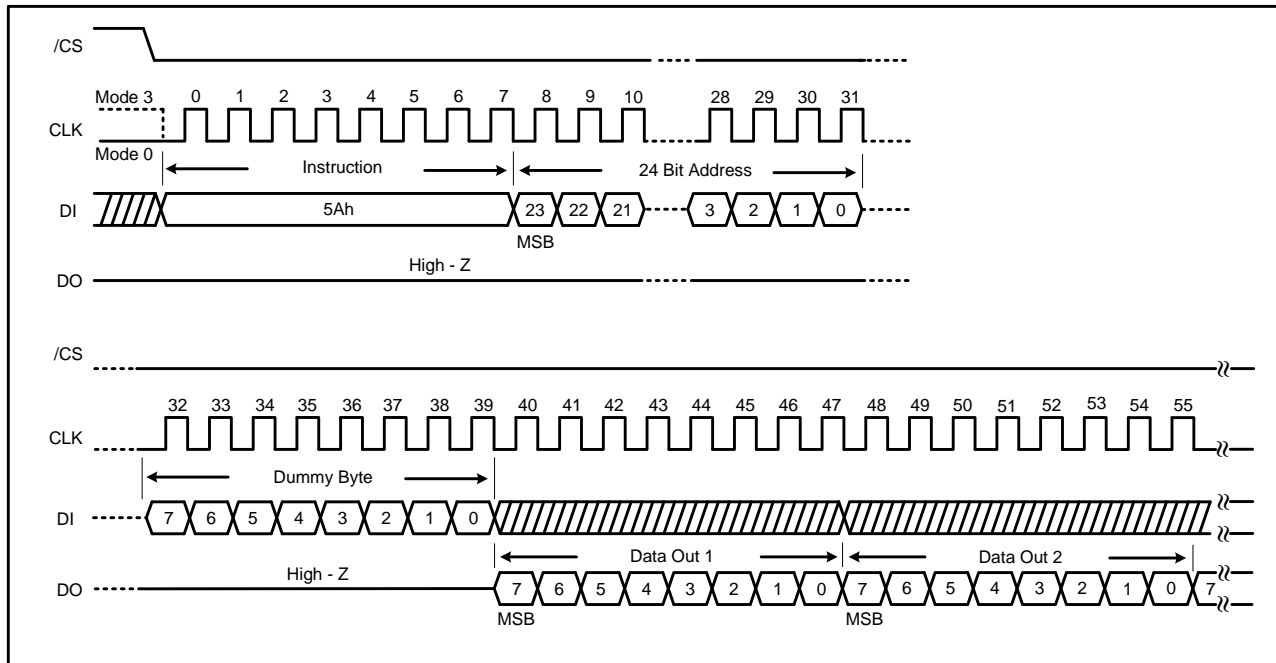

Figure 35. Read SFDP Register Instruction Sequence Diagram
The Read SFDP instruction is initiated by driving the /CS pin low and shifting the instruction code “5Ah” followed by a 24-bit address (A23-A0)(1) into the DI pin. Eight “dummy” clocks are also required before the SFDP register contents are shifted out on the falling edge of the 40th CLK with most significant bit (MSB) first as shown in Figure 35. For SFDP register values and descriptions, please refer to the Dosilicon Application Note for SFDP Definition Table.